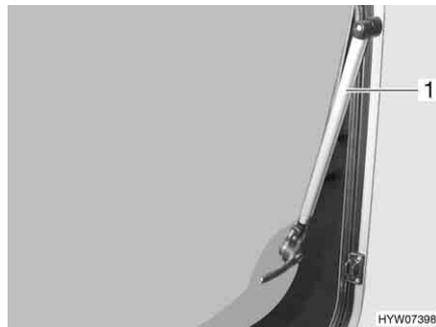

Fig. 95 Hinged window with automatic hinges
- Open the hinged window to the desired latched position. The automatic hinge (Fig. 95, 1) locks in place automatically.